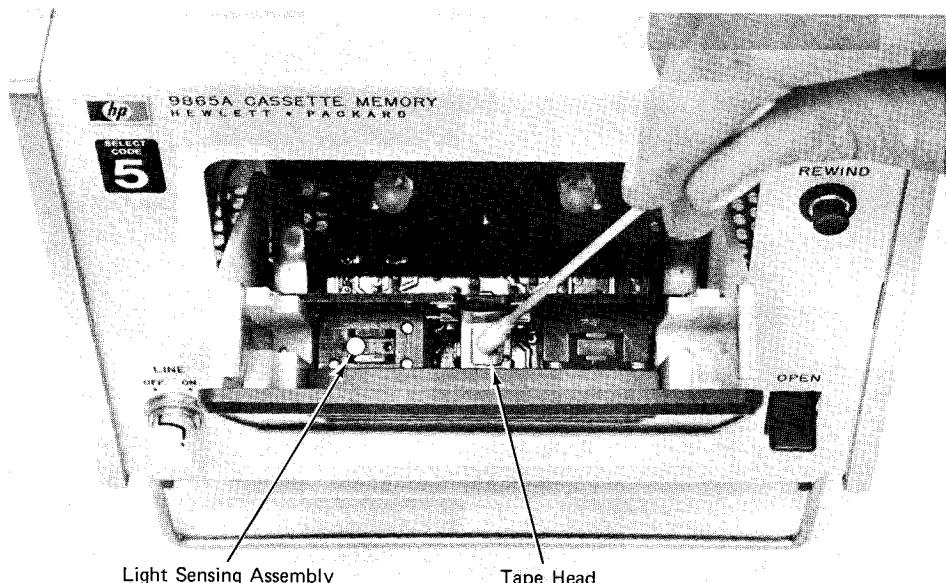

Figure 7. Cleaning the Tape Head
2. Locate the tape head (see Figure 7). Remove any dust or other foreign material that has accumulated in the vicinity of the tape head.
LIGHT-SENSING ASSEMBLY (SEE FIGURE 7).